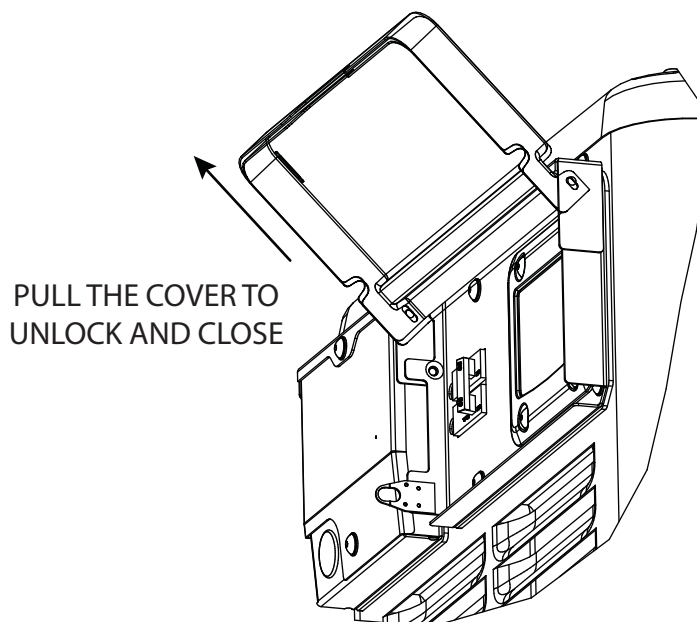

Figure 3-2: Close Control Panel Lid
The user interface includes seven (7) LEDs, to indicate the generator's alarms, warnings, and maintenance actions due. See Figure 3-2 and the following table for details on each indication.